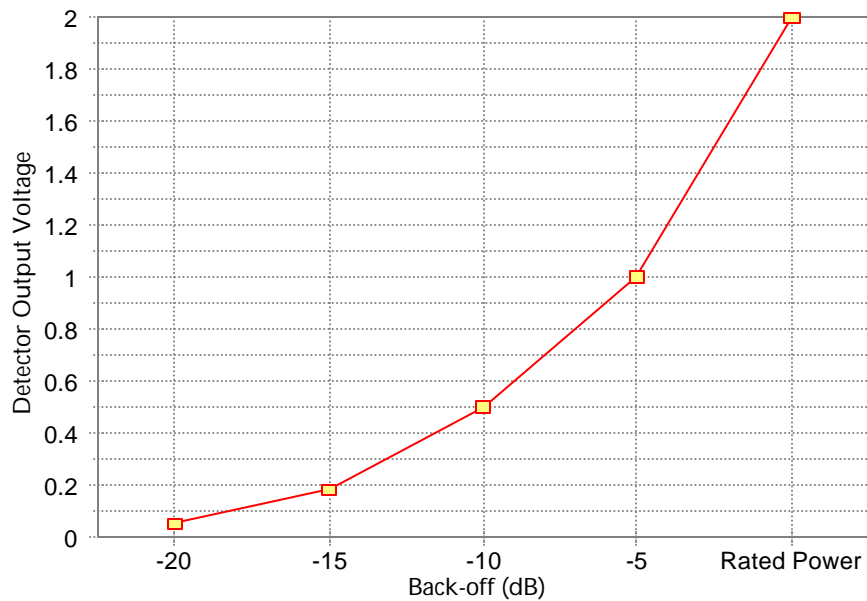

**Figure 2-12.** TWT Temperature: Temperature vs. Voltage
- **TWT Temperature (Pin P).** The TWT's collector temperature may be determined by monitoring the voltage on *Pin P* and referring to Figure 2-12.